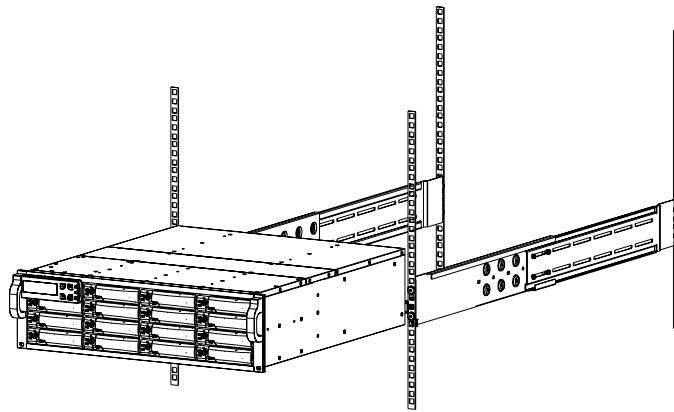

Figure 2
1. Lift the subsystem enclosure and slide it slowly and gently along the slide rail into the rack as Figure 2.